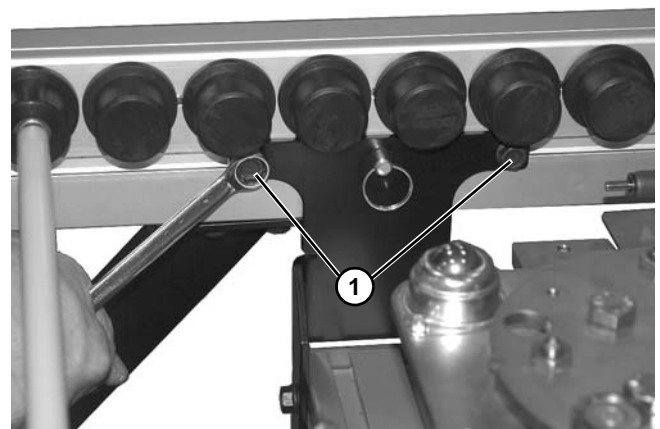

Figure 51
3. Tilt rotate station, as needed, and install and tighten bolts (**Figure 51, item 1**) into follower nuts inside channel.